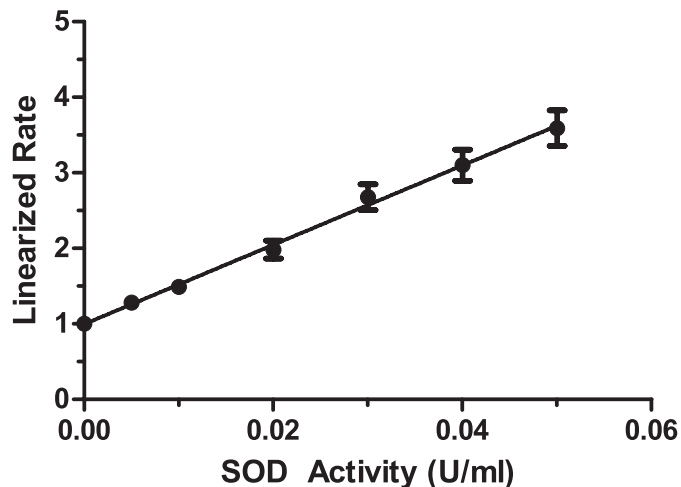

Figure 3. Superoxide Dismutase standard curve
2. Divide standard A's absorbance by itself and divide standard A's absorbance by all the other standards and samples absorbances to yield the linearized rate (LR) (i.e., LR for Std A = Abs Std A/Abs Std A; LR for Std B = Abs Std A/Abs Std B).
3. Plot the linearized SOD standard rate (LR) (from step 2 above) as a function of final SOD Activity (U/ml) from Table 1. See Figure 3 (on page 18) for a typical standard curve.
4. Calculate the SOD activity of the samples using the equation obtained from the linear regression of the standard curve substituting the linearized rate (LR) for each sample. One unit is defined as the amount of enzyme needed to exhibit 50% dismutation of the superoxide radical. SOD activity is standardized using the cytochrome c and xanthine oxidase coupled assay.